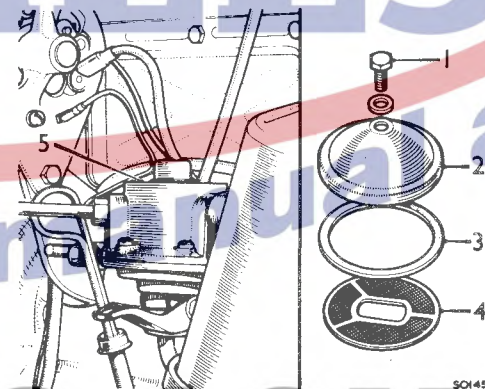

Fig. 50
FUEL LIFT PUMP FILTER: Remove the cap screw (1). Lift off the cap (2), cork gasket (3) and filter gauge (4). Clean the gauge in fuel using a stiff brush. Clean out the fuel chamber (5). Check that the cork gasket is serviceable. If not, replace it with a new one. Re-assemble the components. Do not overtighten the cap screw. (See Fig. 50).